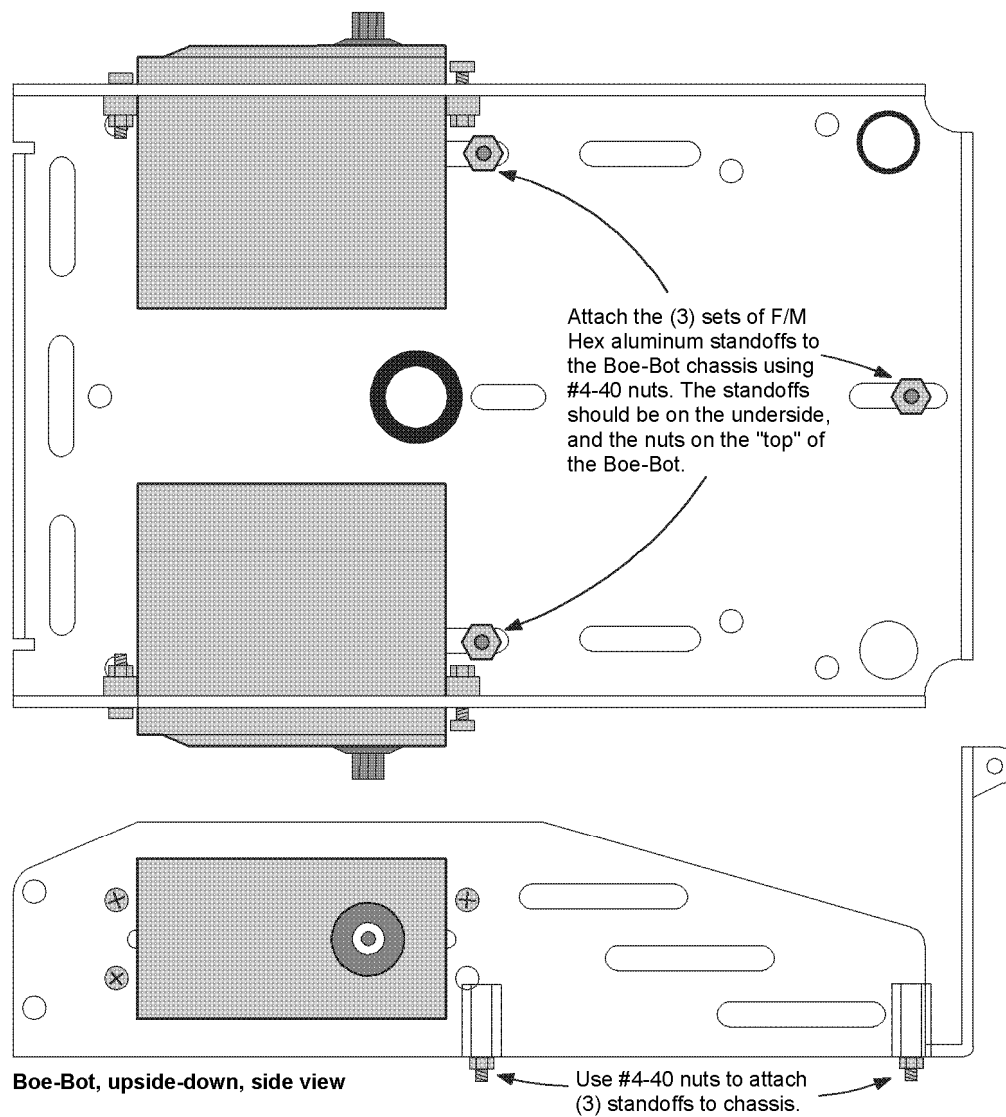

Figure 3
Step 7. Insert the (3) F/M standoffs into the slots, as shown in Figure 3. The standoffs should be on the "inside" of the Boe-Bot chassis. Use (3) #4-40 nuts to loosely attach them to the chassis. Do not tighten yet.